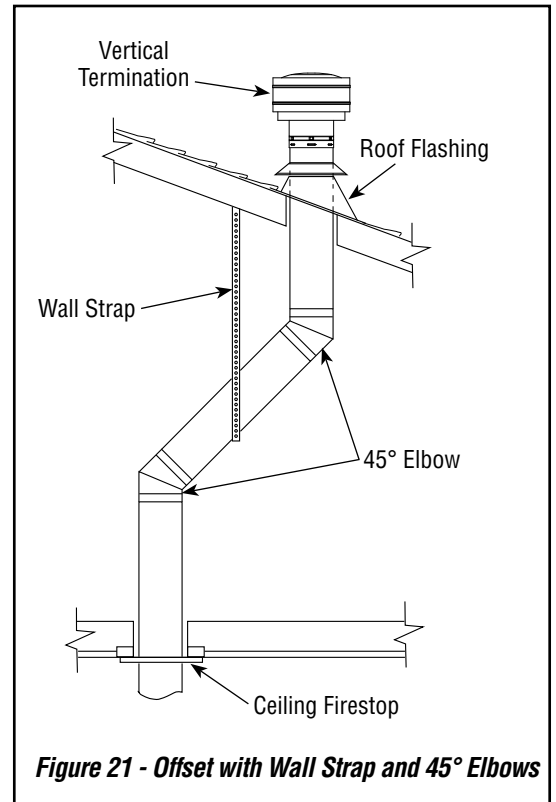

Figure 21 - Offset with Wall Strap and 45° Elbows
1. Determine route your vertical venting will take. If ceiling joists, roof rafters or other framing will obstruct venting system, consider an offset (see **Figure 21**) to avoid cutting load bearing members. **NOTE: Pay special attention to these installation instructions for required clearances (air space) to combustibles when passing through ceilings, walls, roofs, enclosures, attic rafters, etc. Do not pack air spaces with insulation. Also note maximum vertical rise of venting system and any maximum horizontal offset limitations (see Figures 17A).**
NOTE: If an offset is needed to avoid obstructions, you must support vent pipe every 3 feet. Use wall straps for this purpose (*see Figure 21, Page 22*). Whenever possible, use 45° elbows instead of 90° elbows. The 45° elbow offers less restriction to the flow of flue gases.
5. Place flashing over pipe section(s) extending through roof. Secure base of flashing to roof and framing with roofing nails. Be sure roofing material overlaps top edge of flashing as shown in **Figure 21, Page 22**. There must be a 1" clearance from vent pipe to combustible materials.